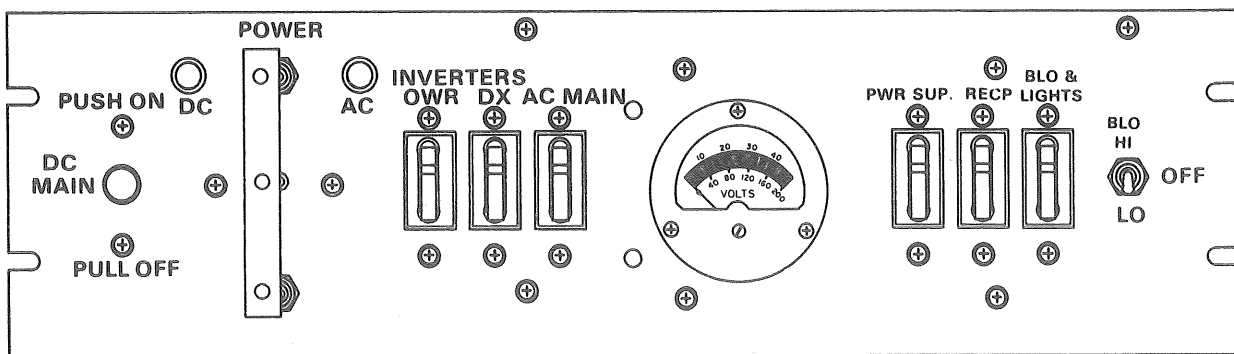
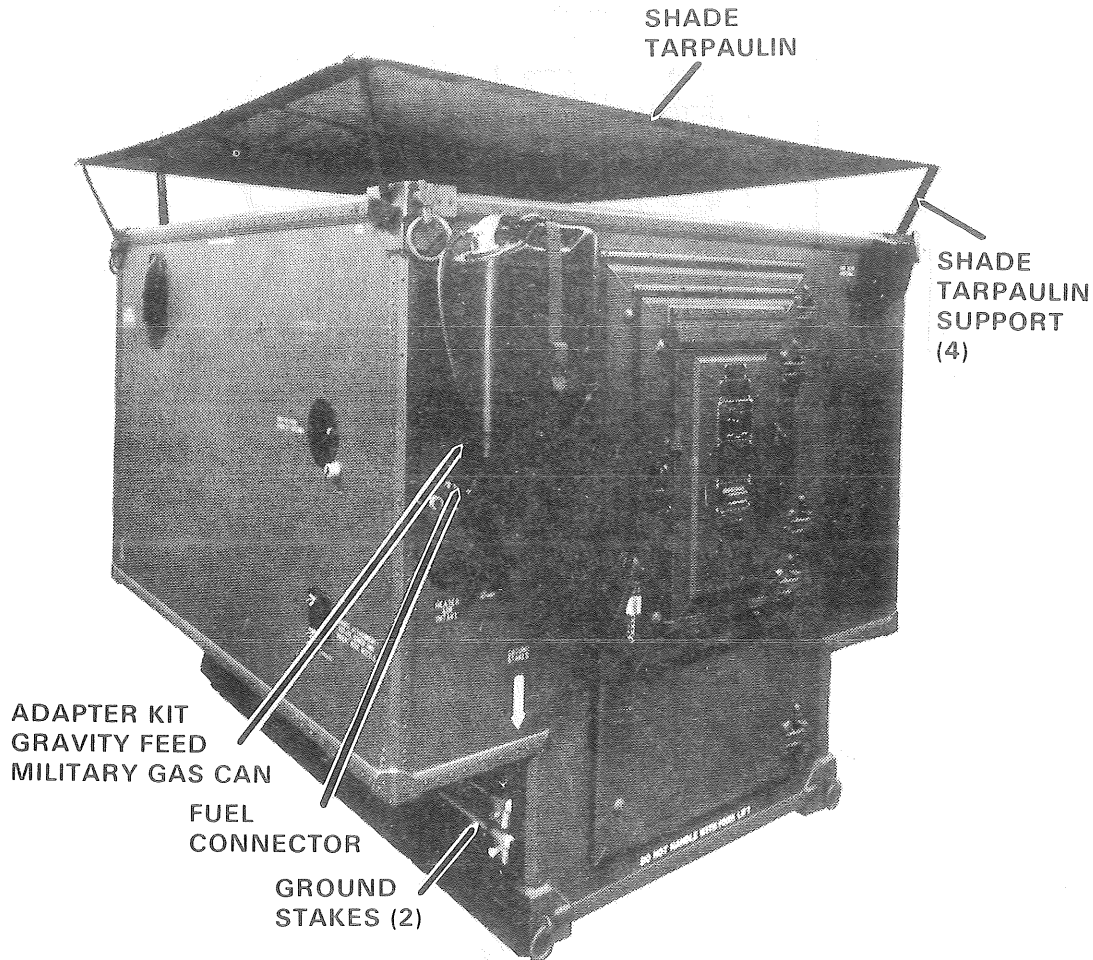

Figure 7
Figure 8
- (2) Insure shelter and portable generator (if used) are properly grounded.
- (3) Insure PUSH-ON PULL-OFF circuit breaker of AN/GRC-142A-142B or AN/GRC-122A-122B is in PULL-OFF position as shown in figure 7.
- (4) Insure POWER selector switch of AN/GRC-142A-142B or AN/GRC-122A-122B is in the AC position as shown in figure 7.
- (5) Insure the AC MAIN circuit breaker of the AN/GRC-142A-142B or AN/GRC-122A-122B is in the OFF position.
6. Erect shade tarpaulin. (Refer to fig 8, and TM 11-5815-334-12, para 2-10 and 2-11.)